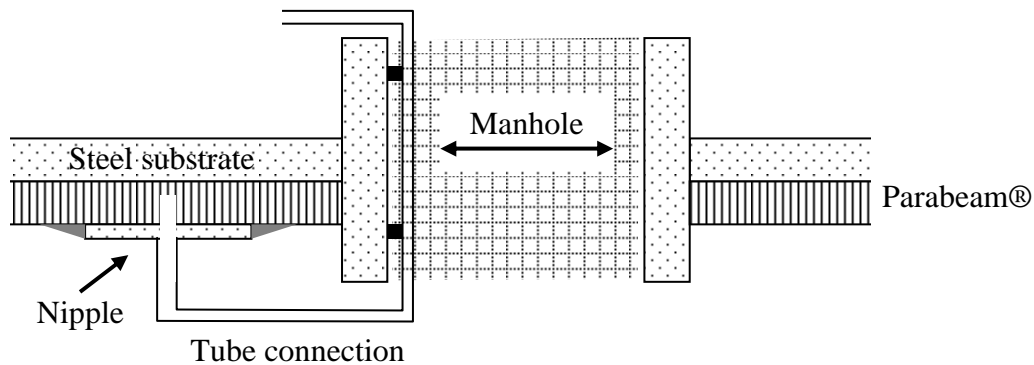

Figure 14
1. Drill a hole in the top face of the Parabeam® and laminate a nipple on it. Connect it by a tube through the man way out (figure 14).